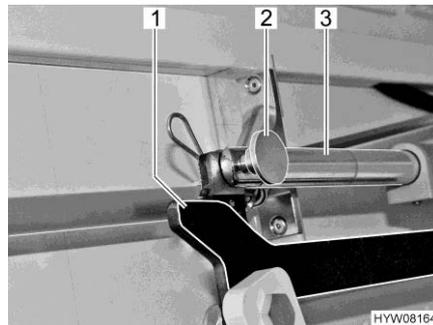

Fig. 102 Drive (pull-down bed)
- Remove the connection (securing splint and pin) (Fig. 102,2) between push rod (Fig. 102,3) and lever (Fig. 102,1).
- Grip it from the bottom, between the side wall and the pull-down bed lever, and undo the connection (securing splint and pins) (Fig. 102,2) between the push rod (Fig. 102,3) and the lever (Fig. 102,1).